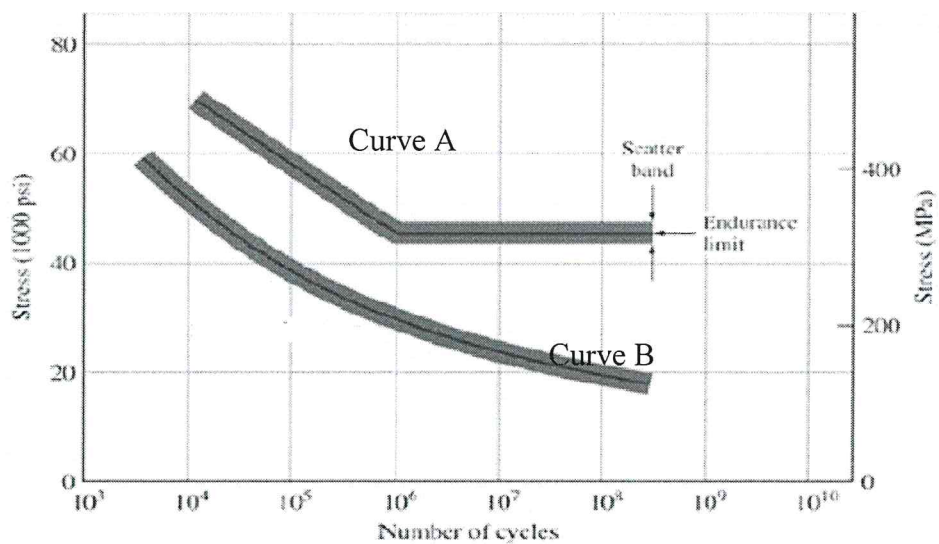

Figure 3 / Rajah 3
- (c) Figure 3 below shows the S-N curve for two types of material.
Based on Figure 3,